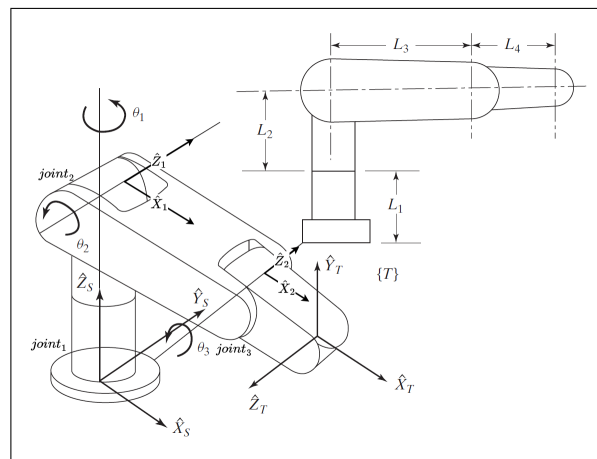

Figure 2: Two views of a 3R manipulator
**Answer:** Consider below Figure 2